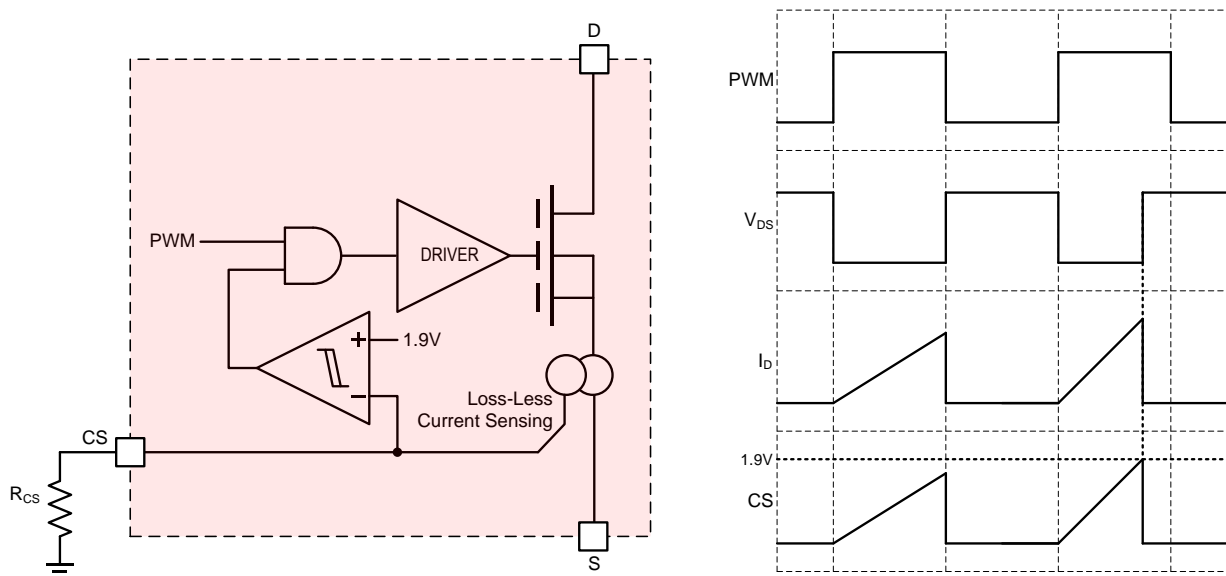

Fig. 21. Current Sense Circuit and Timing Diagram
In many systems implemented with a peak current mode control or over current protection (OCP) functions, the current flowing through the power FET needs to be sensed. To sense the current, most solutions use a current-sense resistor in series with the FET and it increases power loss and introduces more parasitic inductance into the power loop. ISG6106 employs a current-sense circuit without any external resistor to sense the current as shown in Fig. 21. The loss-less current-sense circuit converts the current flowing through the GaN FET to the output current signal of CS pin with a conversion ratio of 4800:1 (typical). The output current of CS pin can be converted to the voltage by a resistor, R_{CS} , placed between CS pin and ground. The value of R_{CS} can be adjusted to provide the current-sense voltage with a proper voltage range for various controllers. The voltage on CS pin, V_{CS} , is determined by equation (1).
where I_D is the drain current of GaN FET. Fig. 21 shows the switching timing diagram of the current sense output.
The ISG6106 provides a cycle-by-cycle over current protection based on the current-sense signal, V_{CS} , to protect the GaN FET. As illustrated in the timing diagram of Fig. 21, when the CS-pin voltage exceeds 1.9V (typical), the GaN FET is turned off. GaN FET will be turned on again at the next rising edge of PWM signal. The current limit by OCP can be calculated by equation (2).